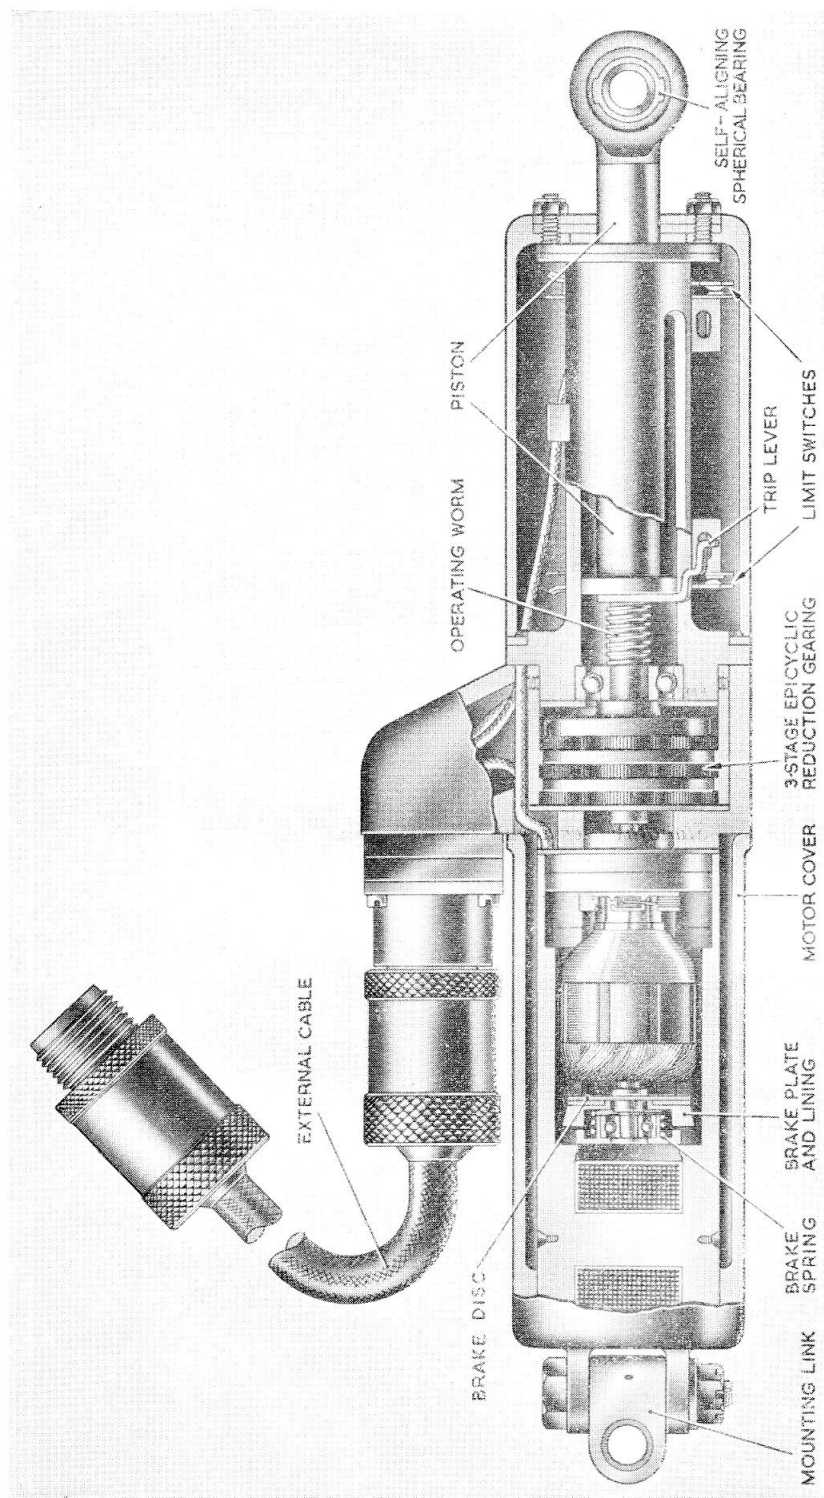

Fig. 1. Sectional view of actuator, Western, Type EJ50, Mk. 25
4. The brake (fig. 1) consists of a spring loaded brake plate with a friction lining on one face. The lined face is adjacent to the face of the brake disc which is fixed to the motor armature shaft. The brake plate can move only longitudinally, and the brake disc rotates with the motor. Operation of the brake is controlled by the motor field coils so that when the coils are energized the brake is held off the brake disc, and when the coils are de-energized the brake plate contacts the brake disc and prevents the motor over-running.